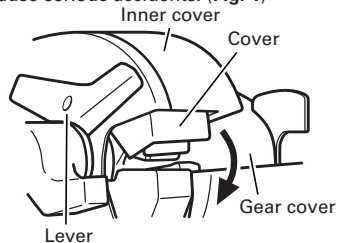

Fig. 1
4. Make absolutely sure that the cutter cover is closed when you don't carry out the cutting work. If the cover is kept open, the cutter can jam on foreign objects and cause serious accidents. (Fig. 1)
7. If you use the machine continuously, the inner cover and gear cover can become hot. After such continuous use, do not touch the inner cover and gear cover. (Fig. 1)